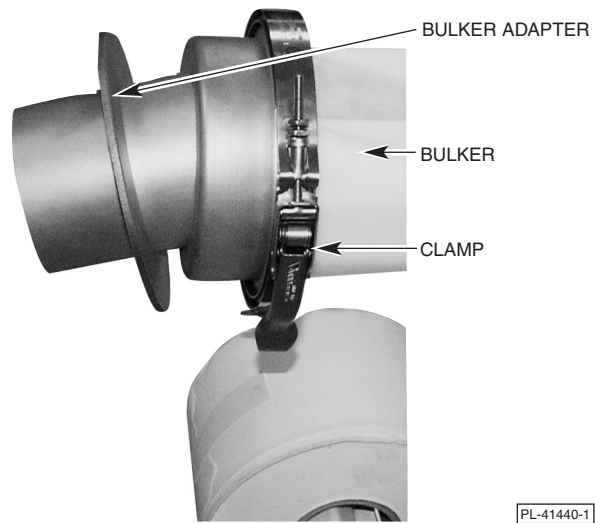

Fig. 4
5. Assemble the bulker adapter to the bulker input tube using the clamp provided with the Hollymatic Bulker, (Fig. 4).